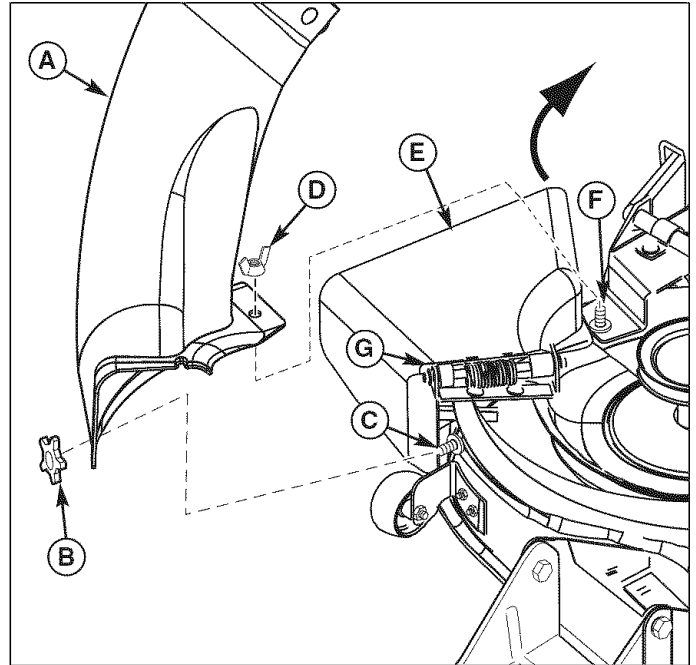

Figure 7. Install Lower Tube
1. Lift discharge deflector up (E, Figure 7).
2. Place the front hole of the lower chute (A) onto carriage bolt (C) as shown. Slide front edge of lower chute (A) under hinge bracket (G).
3. Place the rear hole of the lower chute (A) onto carriage bolt (F) as shown.
4. Secure knob (B) onto carriage bolt (C) as shown.
5. Secure wing nut (D) onto carriage bolt (F) as shown.